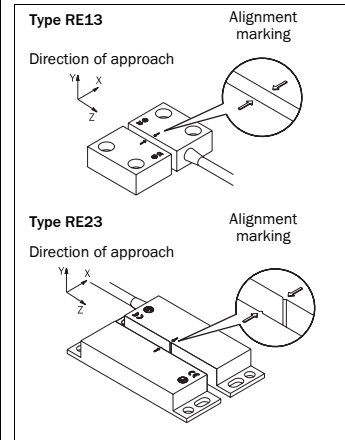

Fig.5: Alignment of read head and actuator
- Note the possible operating positions in Fig.5.